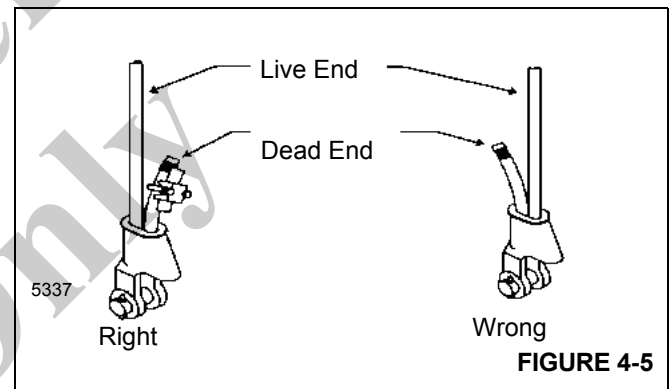

FIGURE 4-5
3. Make sure the live-loaded side Figure 4-5 of the rope is directly in line with the ears of the socket and the direction of pull to which the rope will be subjected. If the rope is loaded into the socket incorrectly, under a load the rope will bend as it leaves the socket, and the edge of the socket will wear into the rope causing damage to the rope and eventual failure.
4. Insert the end of a wire rope into the socket, form a loop in the rope, and route the rope back through the socket allowing the "dead" end Figure 4-5 to protrude from the socket. Ensure the dead end of the rope is of sufficient length to apply end treatment to the dead end after the wedge has been seated.